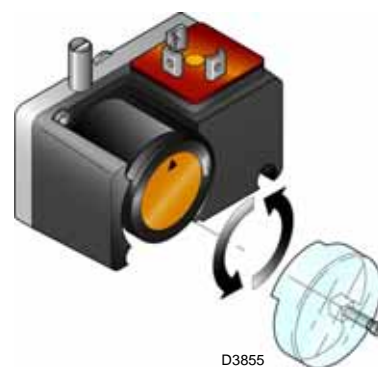

Fig. 32
- Adjust the minimum gas pressure switch (Fig. 32 at page 33) to the start of the scale.
Adjust the minimum gas pressure switch (Fig. 32) after having performed all other burner adjustments with the pressure switch set to the start of the scale.